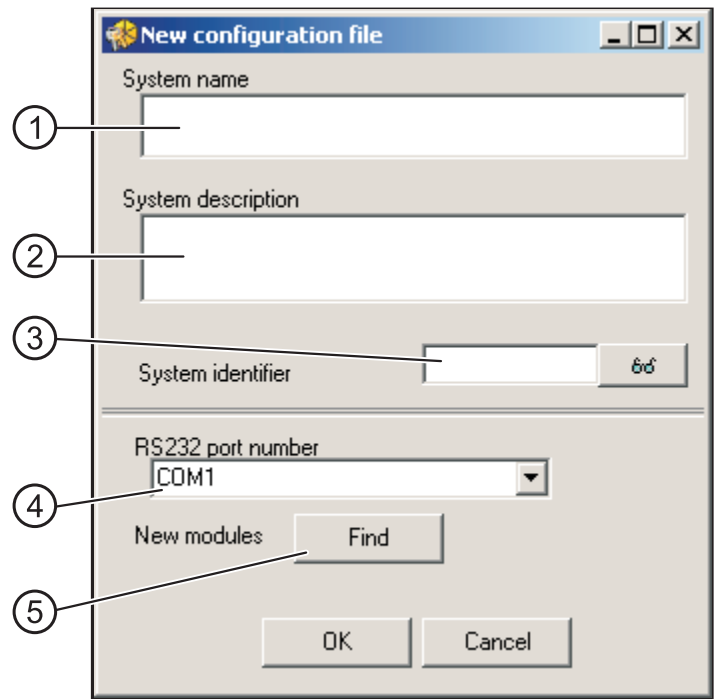

Fig. 20. Window enabling parameters of a new configuration file to be determined.
4. Create a configuration file in which all information related to the module (system consisting of several modules) served by the program will be saved. For this purpose, open the FILE menu and select the NEW item. The window shown on Fig. 20. will be displayed. You have to fill in the SYSTEM NAME and SYSTEM IDENTIFIER fields and select the computer port through which communication with the module(s) will be effected. Next, you can click on the FIND button (the module or modules connected to the indicated computer port will be found by the program itself) or directly on the OK button.